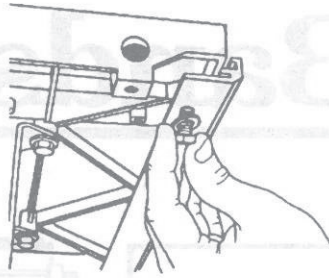
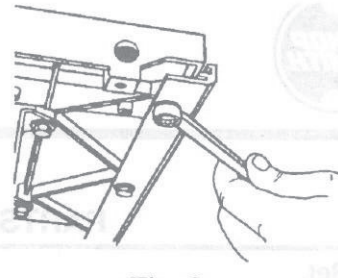

Fig. 1
Fig. 2
1. Attach the table bar (21) to the bandsaw table with bolts (23) and washers (22), as shown in Fig. 1. Use a 1/2" wrench to securely tighten the bolts, as seen in Fig. 2.